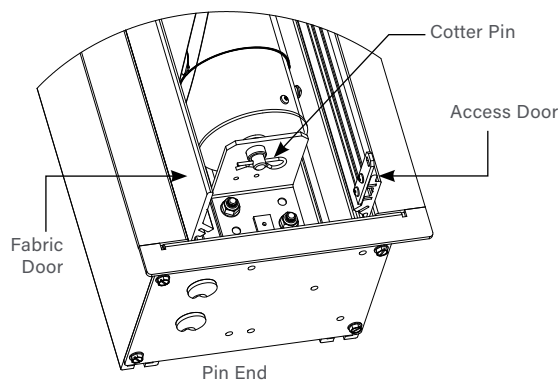

Figure 3
4. Lift the pin end (right end) of the roller into position and slide the bracket onto the roller pin. Tighten two nuts to secure the bracket. Secure pin end with cotter pin. See figure 3.